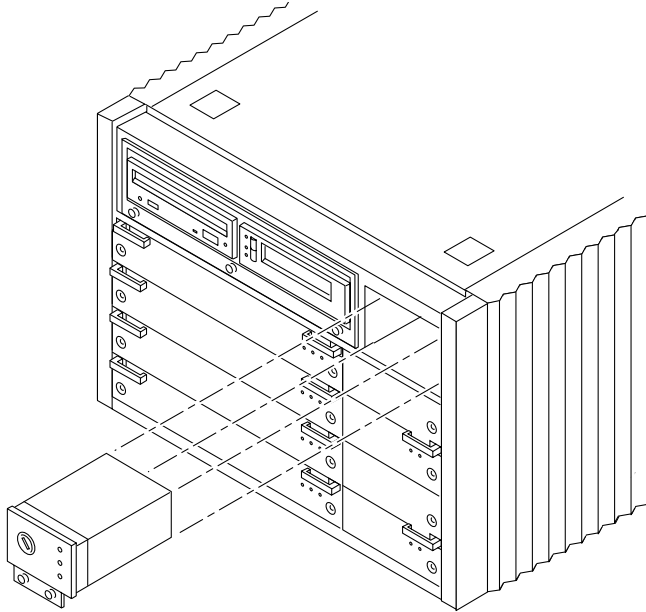

FIGURE E-22 Replacing the Key Switch/LED Tray Assembly in the Enterprise 4500 System
- 6. Gently pull the key switch assembly from the enclosure (FIGURE E-22).**
Viewed from the front of the system, the key switch assembly is on the right side of the enclosure (FIGURE E-22).